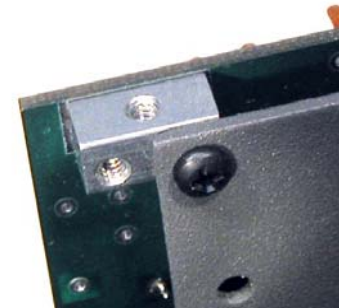

Figure 37. Bottom Cover Attached to 2-D Fastener.
Clean the paint off of the inside surface of the bottom cover around the screw holes in the four corners where the 2-D fasteners will attach it to the RF PCB (See Figure 37).
- Pick up the entire assembly and secure the four 2-D fasteners to the bottom cover. Each corner is attached with one 3/16" (4.8 mm) black screw (see Figure 37). The other two screw holes in each 2-D fastener will secure the front, rear and side covers in later steps.